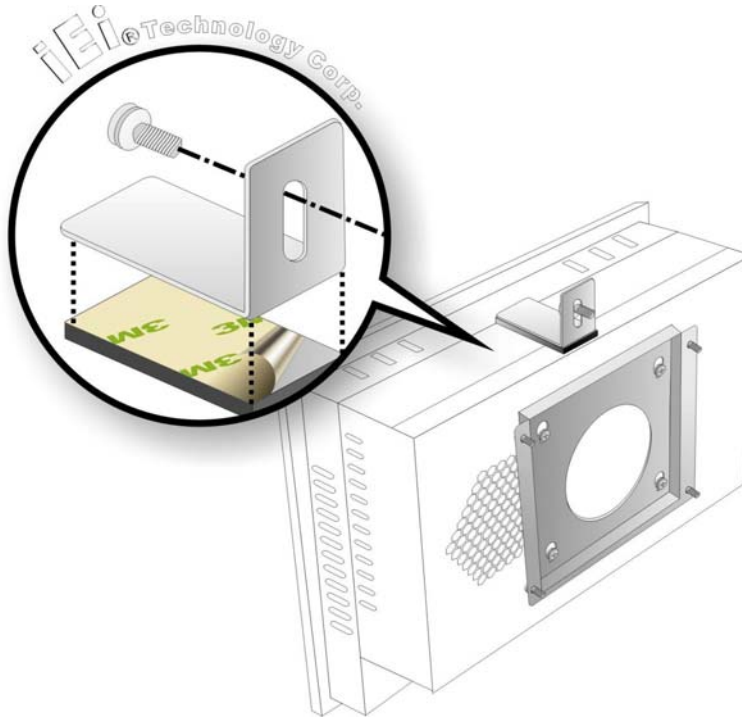

Figure 4-16: Secure the Chassis
Step 9: Secure the panel PC with the wall-mounting kit. To do this, stick the protective cushion to the wall-mounting kit first. Then, put the wall-mounting kit on the top panel of the panel PC. Carefully mark the location of the wall-mounting kit screw holes on the wall. Drill a pilot hole at the marked location on the wall. Secure the wall-mounting kit to the wall by inserting a retention screw into the pilot hole on the wall (**Figure 4-16**). This step is to avoid the panel PC being pushed apart from the wall-mounting bracket accidentally.